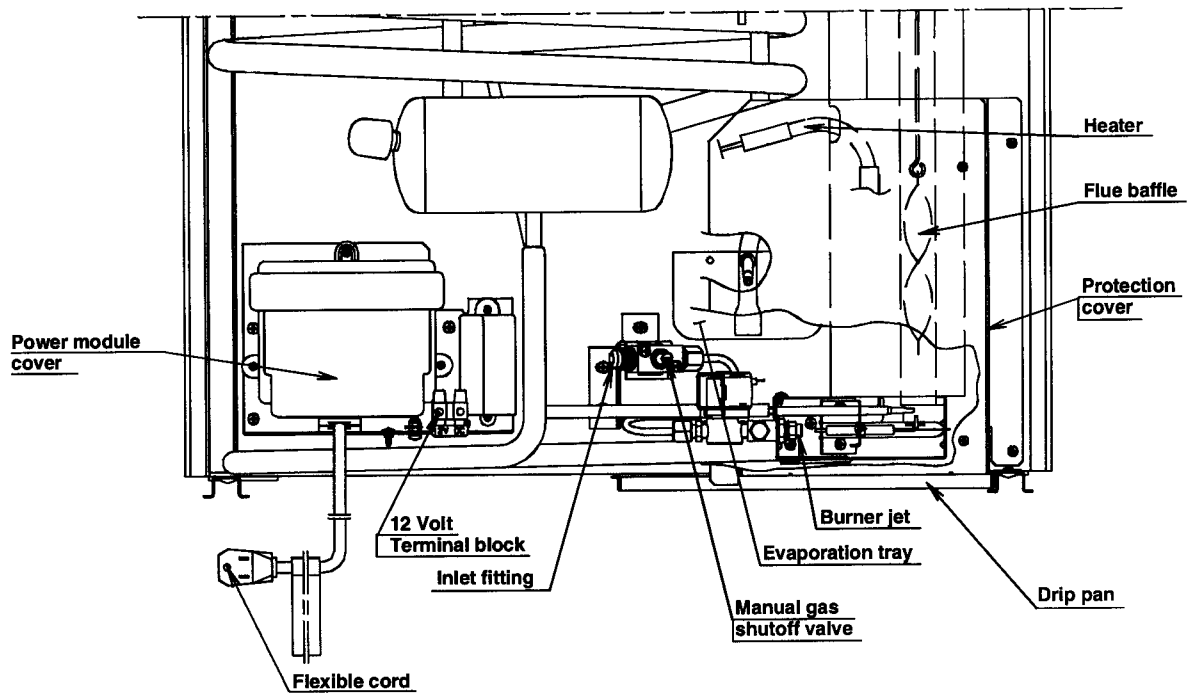

FIG. 1
This refrigerator model is not designed for 12 volt DC operation of the cooling system; however, a continuous 12 volt DC must be supplied to the refrigerator to operate the controls. Use a **minimum of a 14 gauge wire** between the battery and refrigerator to supply the control voltage. The connection is made to the positive (+) and negative (-) terminals of the terminal block on the back of the refrigerator. (See FIG. 1).
2. Check that the gas flame is lit and the GAS mode indicator lamp (C) is on.
3. Close the manual gas shutoff valve at the back of the refrigerator. (See FIG. 1).
4. Wait for one minute. The CHECK indicator lamp (D) should be on and the GAS mode indicator lamp (C) should be off.
5. Remove protection cover (see FIG. 1) and open the manual gas shutoff valve. Do not change any button positions on the control panel. Apply a non-corrosive commercial bubble solution to the burner jet orifice.
7. If no bubbles were present at the burner jet orifice, it should be rinsed with fresh water. Be careful not to damage the burner jet orifice. Replace cover and press the main power ON/OFF button (1) OFF and back ON. Normal operation of the burner should return. Allow the burner to operate for a minimum of five minutes.